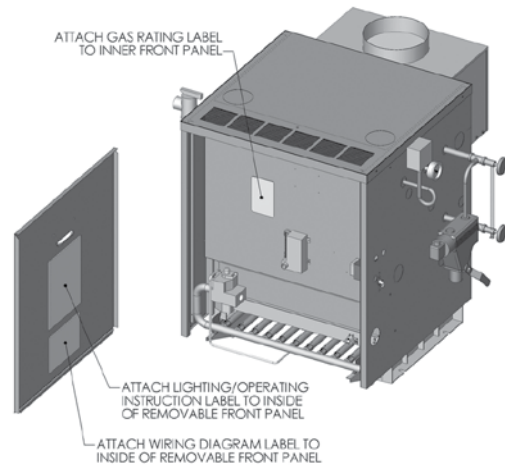

Figure 2.9: Label & Rating Plate Locations
- Wiring Diagram LabelAttach labels as shown in Figure 2.9.